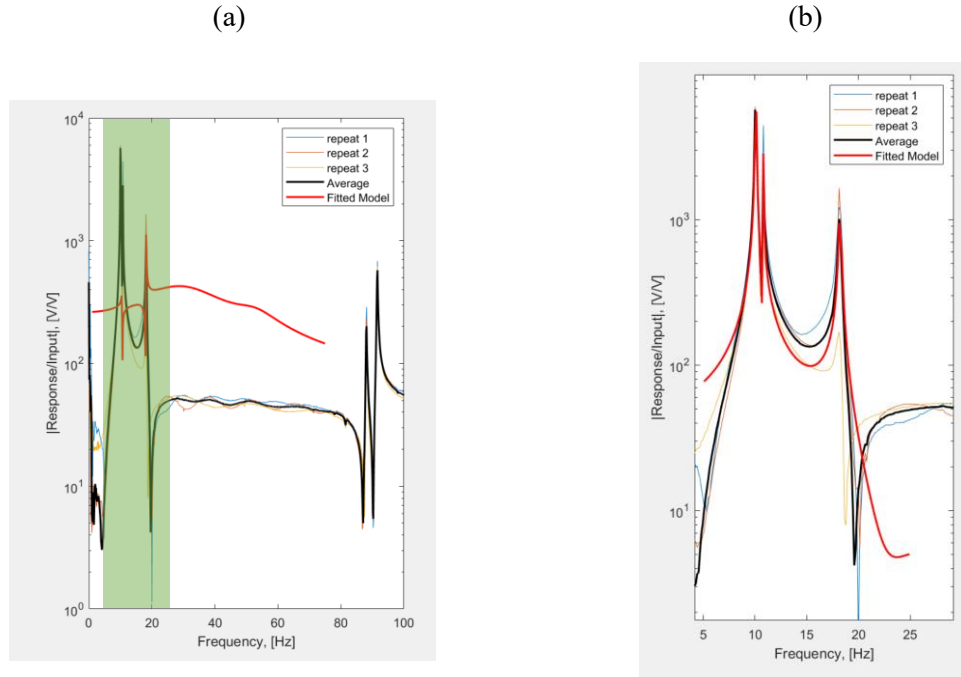

Figure 2: FRFs from case C4_v. (a) Prior to tuning fitting parameters. (b) With adjusted modalfit parameters
- 1) View the FRFs from the repetitions at selected places but clicking the red bars showing the excitation directions at each station **Figure 2** (a) – see section 2.1. At the same time make a note of the placement of peaks which may be of interest
- 2) Using the ‘Config’ button to tune the *modalfit()* parameters (section) to obtain a refined fit. You may check the quality of the fitted model by clicking on different red bars at different stations - **Figure 2** (b). In this example, the first three modes are of interest. For this case, a frequency range of 5-25Hz with 6 modes set through ‘Config’.